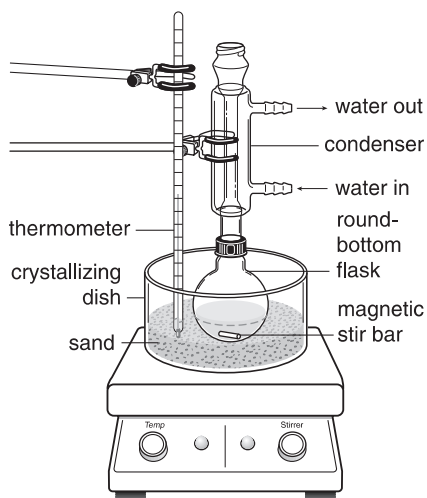

Figure 4 Reflux apparatus with round-bottom flask
5. **Setting Up the Apparatus** Depending upon your glassware, assemble a reflux apparatus similar to that shown in Figure 4.